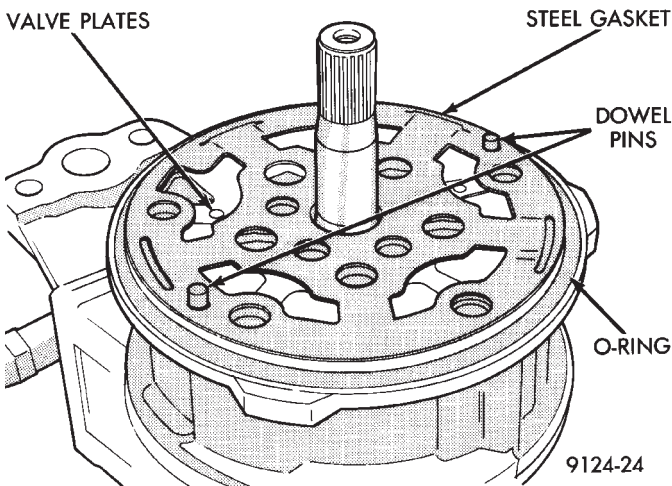

Fig. 14 Disassembling Compressor Front End
(10) Remove dowel pins, valve plates, and steel valve plate gasket. Discard steel gasket (Fig. 14).